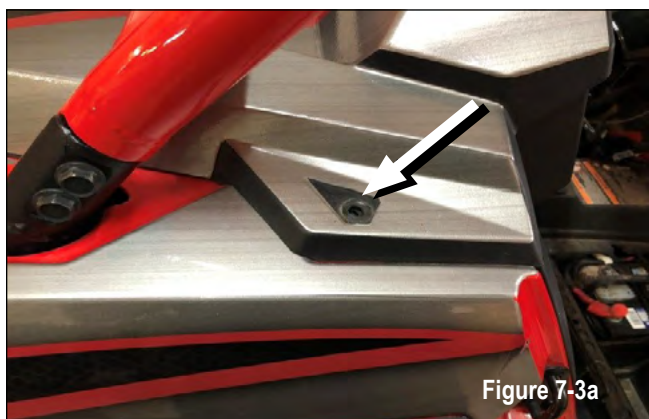
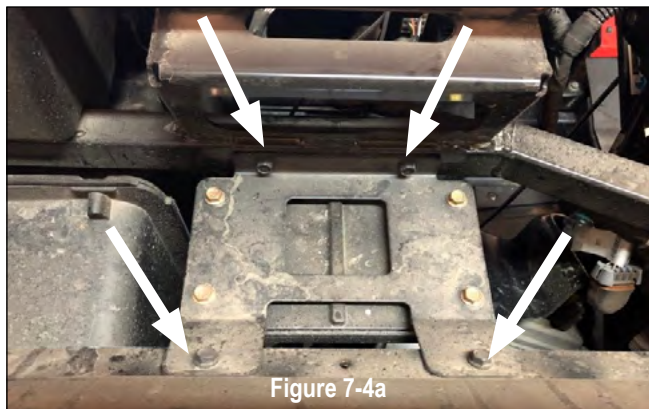

Figure 7-3a
Figure 7-3b
Remove (2) T40 screws located by the A-pillars as shown in Figure 7-3a. Next, remove the (2) T40 screws holding the front of the dash in the inner fender near the water bottle and bus bar. Lift upwards to release the top of the dash cover and remove as shown in Figure 7-3b.